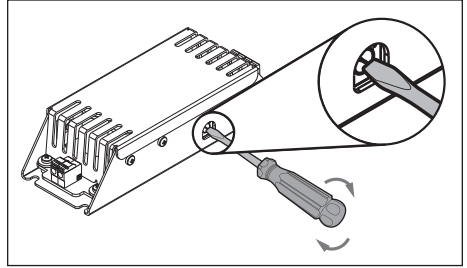

Figure 1. Turning Dial with Screwdriver
- Jandy®: J-Series (1)
- Hayward® Industries: H-Series (2)
- Pentair® Water Pool and Spa, Inc.: P-Series (3)
2. Using a flathead screwdriver, rotate the dial on the side of the Smart Sync LED Adapter to the corresponding number for the series you want to select (see sticker on LED adapter). See *Figure 1*.